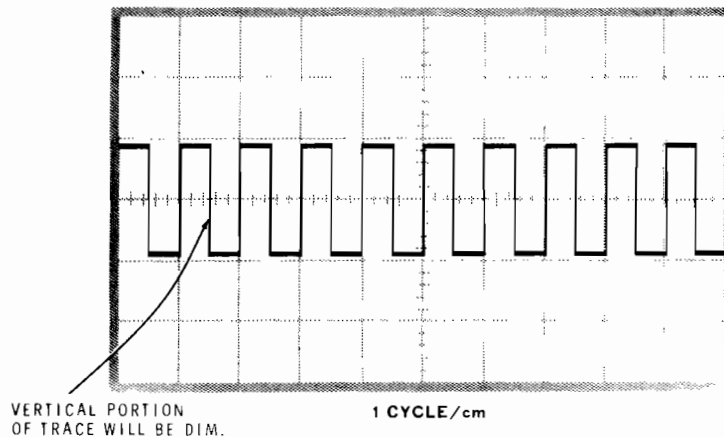

Figure 1-2
- 8) Adjust the trigger and stability control on your oscilloscope to obtain a waveform similar to the waveform in Figure 1-2.
- () Turn the VOLTS OUT switch through each of its positions. You should obtain a waveform similar to the waveform in Figure 1-2. The signal amplitude, however, will reflect the setting of the VOLTS OUT switch. Readjust the input attenuator of your oscilloscope as necessary. **WARNING:** To avoid a possible shock, do not touch the Volts Out signal when the VOLTS OUT switch is in the 100V position.